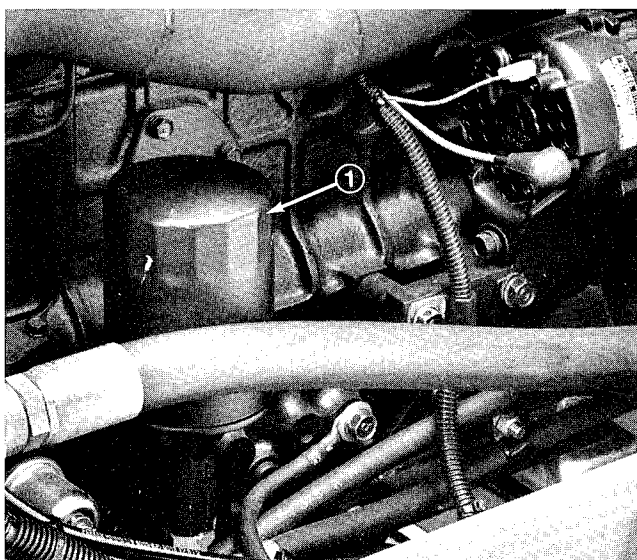

Figure 36
3. Remove drain plug and allow oil to drain into pan. Remove and replace oil filter (Fig. 36); refer to parts catalog for replacement number. Apply a coating of oil to the filter O-ring and tighten filter by hand.